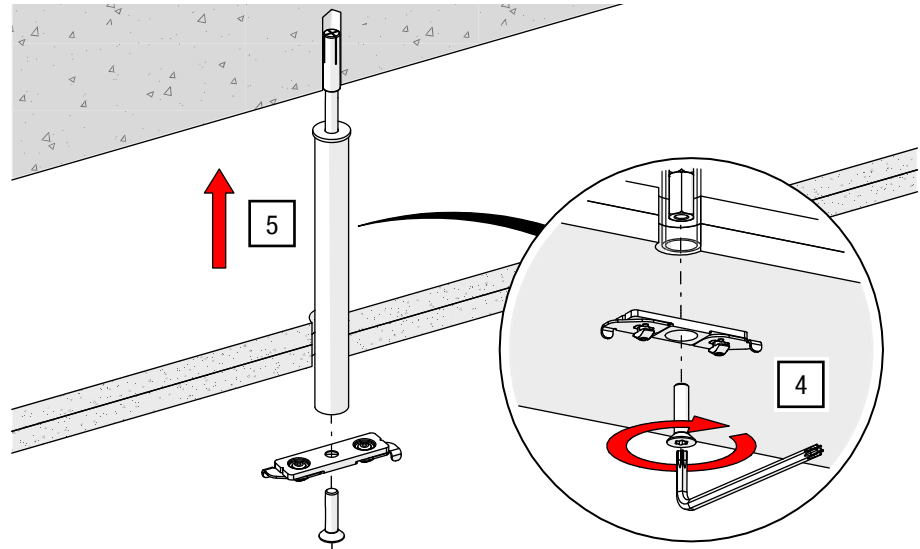

Fig. 38: Ceiling suspension OFFICE – Ceiling mount bracket to suspension
4. Slide the tube onto the threaded rod screwed into the drive-in anchor (see Fig. 38).
5. Screw the G-TRACK ceiling mount bracket to the coupling nut using a TORX®-key T30 with 14 Nm (see Fig. 38).